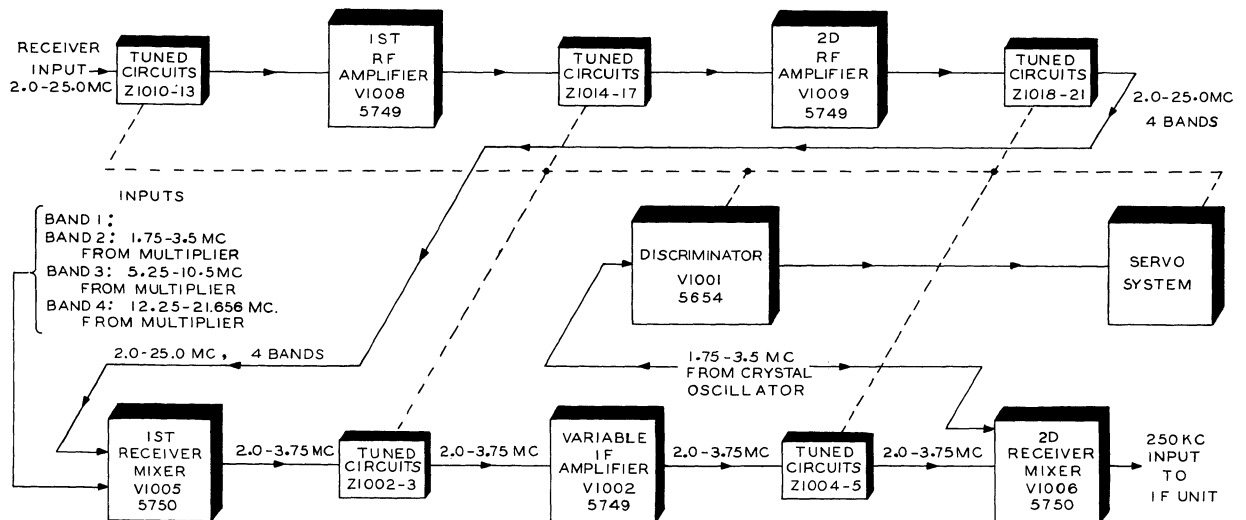

Figure 4-15. Tuner Unit, Receive Position, Block Diagram
4.9.3.2.1 BLOCK DIAGRAM. Refer to figure 4-15. In the receive condition, signal from the antenna is